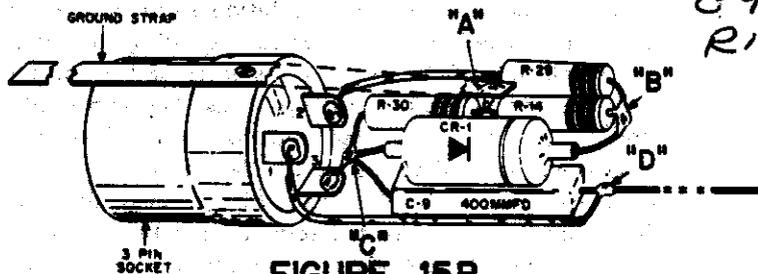

**FIGURE 15A**
- (✓) Twist one of the leads of R-14, a 1 megohm resistor (brown, black, green), with one of the leads of R-30, a 22,000 ohm resistor (red, red, orange). Solder and clip the excess leads. (Point "A" of Figure 15A.)
- (✓) Connect the lead from the banded end (cathode) of CR-1, the crystal diode, to point "B". See Figure 15A.
- (✓) Connect the other end of CR-1 to point "C". See Figure 15A.
- (✓) Position R-29, a 15,000 ohm resistor (brown, green, orange), as shown in Figure 15A. Solder one lead of R-29 to point "B". Cut off the excess leads from R-14, CR-1 and R-29 close to this soldered connection.